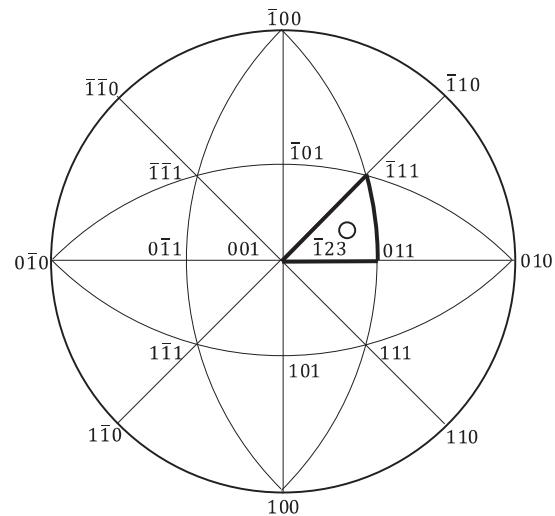

Figure 2
- (2) Suppose that the specimen is a face-centered cubic single crystal and that the direction of the tensile axis is  $[\bar{1}23]$ . Given that the slip system of the face-centered cubic crystal is  $\{111\}\langle 110 \rangle$ , show the indices of the primary slip plane and direction, and derive the resolved shear stress acting on the primary slip system. You may refer to the stereographic projection shown in Figure 2.
- (3) Show the index of the cross-slip system with respect to the primary slip system obtained in (2), and derive the resolved shear stress acting on the slip system.